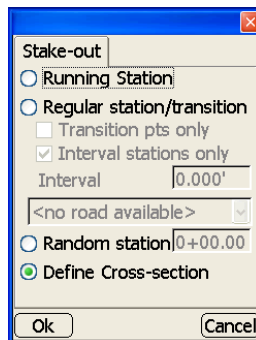

Figure 4-54. Stake-out Dialog Box
On the **Stake-out** dialog box, enter or select the following information and press **Ok** (Figure 4-54 on page 4-35).
- Define Cross-section – enable to define cross section slope measurements. The *Xsection* and *Image* tabs activate (Figure 4-54).